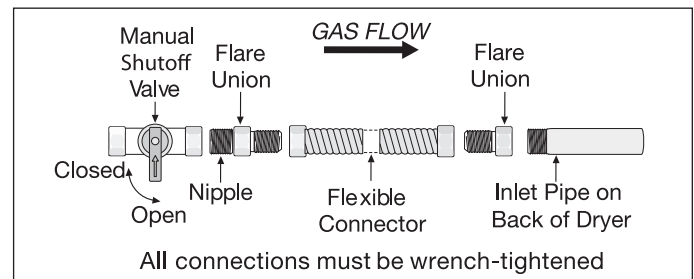

Figure 2-12.
2. Connect a 1/2 inch (1.27 cm) I.D. semi-rigid or approved pipe from gas supply line to the 3/8 inch (0.96 cm) pipe located on the back of the dryer. Use a 1/2 inch to 3/8 inch (1.27 cm to 0.96 cm) reducer for the connection. Apply an approved thread sealer that is resistant to the corrosive action of liquefied gases on all pipe connections. (See Figure 2-12)